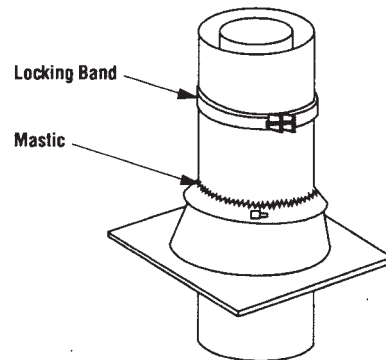

Figure 30
Step 8. The standard Superior roof flashing assemblies include a storm collar. Slide storm collar over outer chimney, align with top surface of flashing, insert tab in slot, pull tight and bend tab back over slot. Seal storm collar to outer chimney with roof caulking or mastic around entire circumference of pipe. Also add extra roof caulking where storm collar meets flashing and to the tab/slot area to seal completely against water penetration (Figure 30). Check all joints very carefully to ensure no water intrusion can take place.
Step 9. Superior locking bands, Model LB, may be required if the chimney extends too high above the roof flashing. As a general rule, if the chimney extends more than 6' above the roof flashing, the use of locking bands is advisable to strengthen the chimney assembly. Align the locking band at the chimney joint. Locking bands wrap around pipe joints equally covering the joints of both pipe sections. Use nut provided and TIGHTEN snugly. Do not over-tighten as this might damage chimney section (Figure 30).